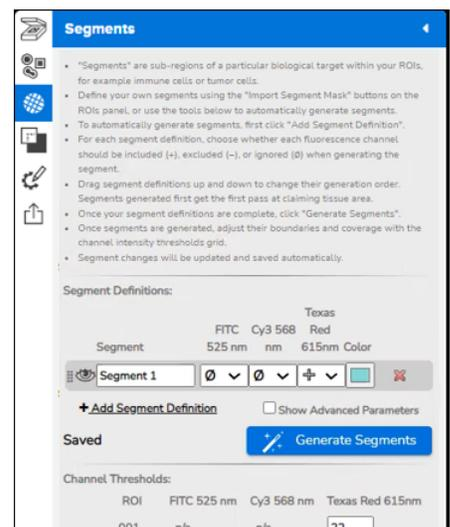

Figure 48: Generate Segments button
9. Any segment definitions existing in the source ROIs will transfer to the new scan, overwriting existing segment definitions. **To apply the transferred segment definitions**, open the **Segments** menu and click **Generate Segments** (Figure 48). Segments can be adjusted or new ones created.